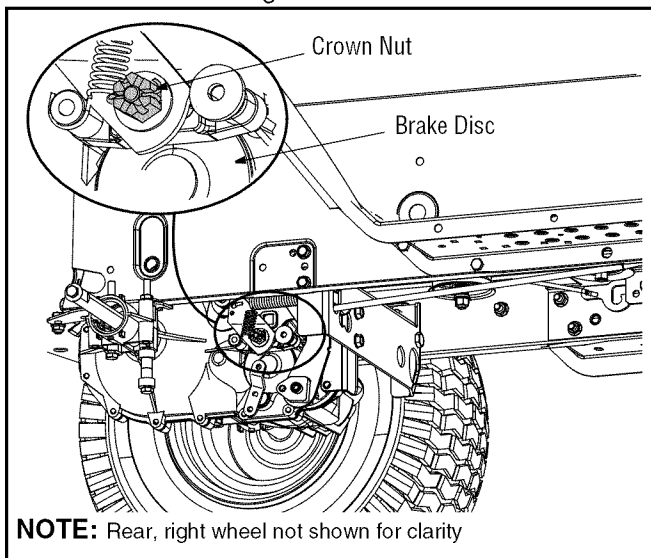

Figure 18
- Looking at the transmission from the right side of the tractor, locate the compression spring and brake disc. See Figure 18.